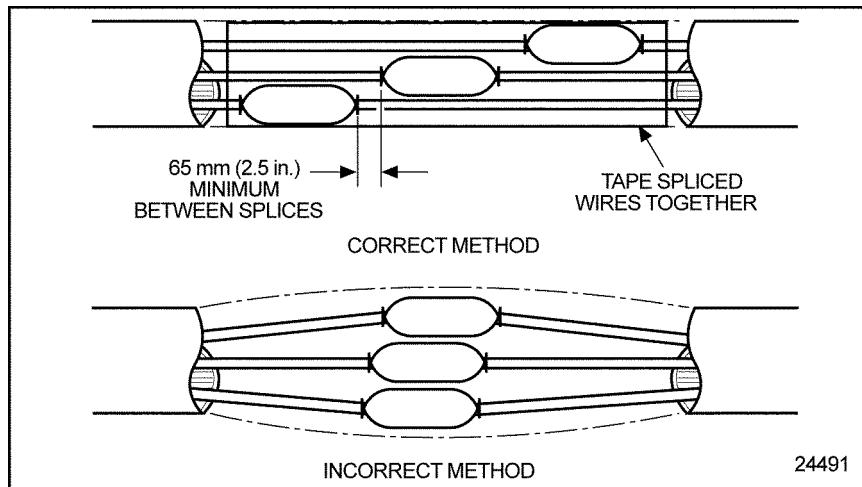

Figure 3-21 The Correct and Incorrect Method of Staggering Multiple Splices
1. Stagger the position of each splice (see Figure 3-21) so there is at least a 2.5 in. (65 mm) separation between splices.